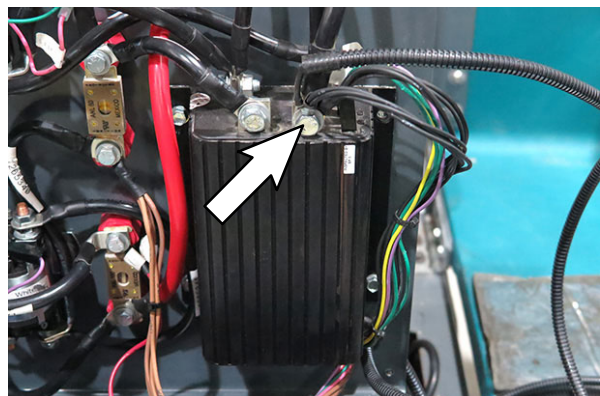

FIG. 17
29. Battery Machines Only: Connect the blue spotlight harness (6) ground lead to the machine ground located inside the electrical box. (Fig. 17/ Fig. 7)